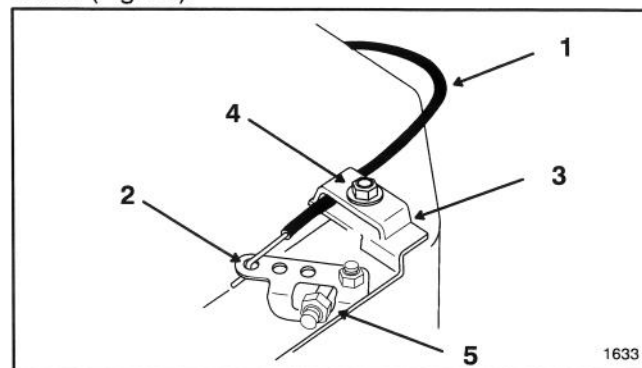

Figure 20
1. Loosen cable clamp screw securing cable to engine (Fig. 20).
3. Push firmly on engine speed control cable until governor arm contacts stop and tighten cable clamp screw (Fig. 20).